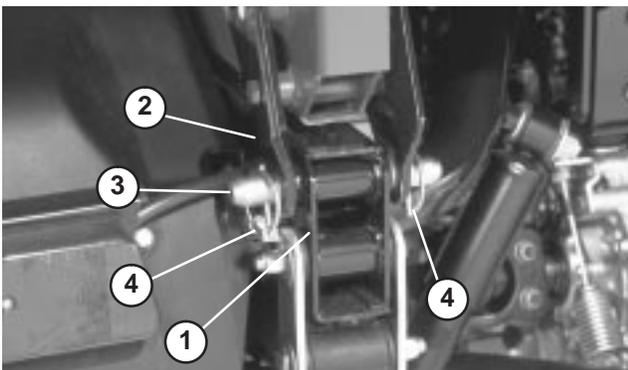

Figure 7
- Position Topdresser onto vehicle frame, aligning holes in rear mounting brackets with holes in each side of frame (Fig. 7).
- Secure each rear mounting bracket to vehicle frame with a clevis pin and (2) lynch pins (Fig. 7).